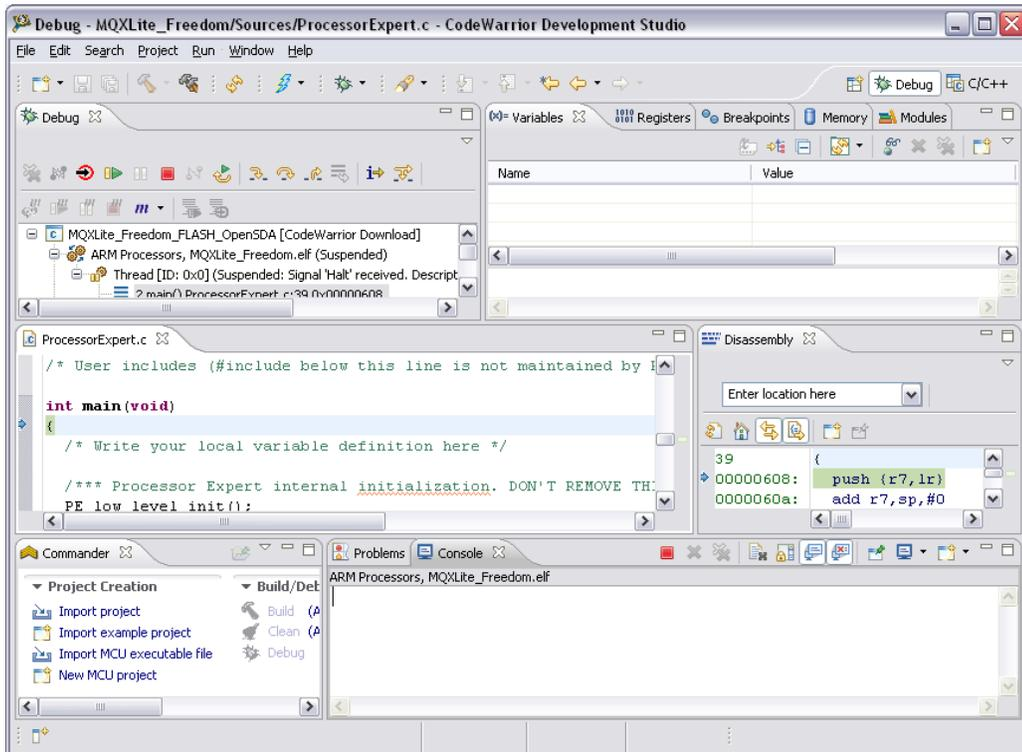

Figure 39. CodeWarrior debugging perspective view
3. At this point the CodeWarrior perspective view changes and after the source code is downloaded to the board we are able to start the debugging. Figure 39 illustrates a debugging session.